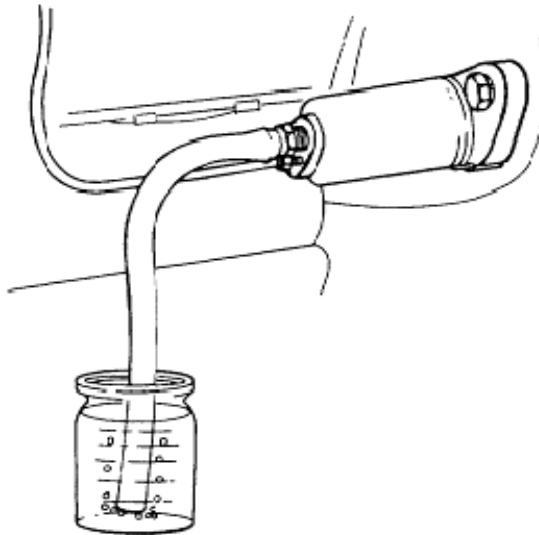

Figure 51 Clutch System Bleeding Procedure
- a.** Attach a length of suitable tubing to the slave cylinder bleed screw (Figure 51) and place the free end of the tube in a glass jar containing hydraulic fluid.